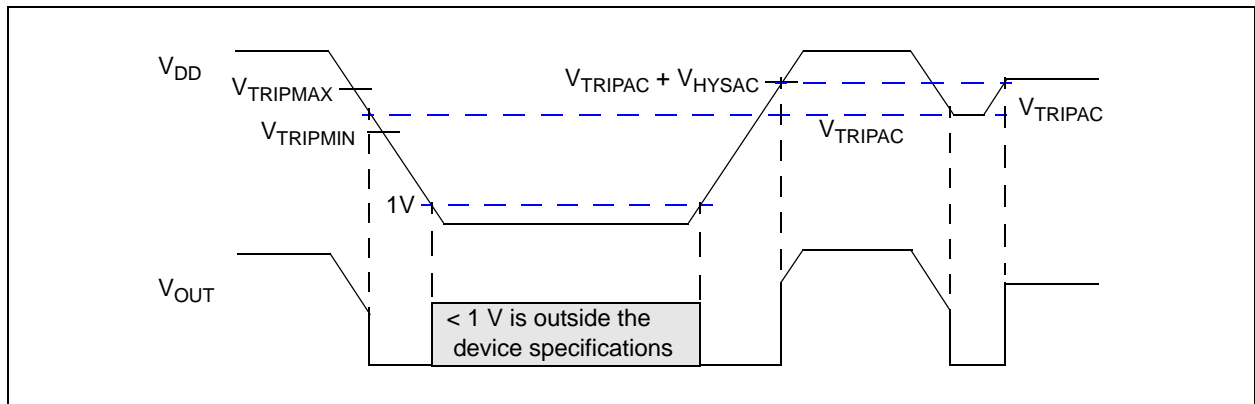

**FIGURE 4-1:** Typical Application Circuit.
**Note:** Unless otherwise indicated, all limits are specified for  $V_{DD} = 1V$  to  $5.5V$ ,  $R_{PU} = 100\text{ k}\Omega$  (only **MCP111**; see **Figure 4-1**),  $T_A = -40^\circ\text{C}$  to  $+125^\circ\text{C}$ .
**Note:** Unless otherwise indicated, all limits are specified for  $V_{DD} = 1V$  to  $5.5V$ ,  $R_{PU} = 100\text{ k}\Omega$  (only MCP111; see Figure 4-1),  $T_A = -40^\circ\text{C}$  to  $+125^\circ\text{C}$ .
For many of today's microcontroller applications, care must be taken to prevent low-power conditions that can cause many different system problems. The most common causes are brown-out conditions, where the system supply drops below the operating level momentarily. The second most common cause is when a slowly decaying power supply causes the microcontroller to begin executing instructions without sufficient voltage to sustain SRAM, thus producing indeterminate results. Figure 4-1 shows a typical application circuit.
A 0.1  $\mu\text{F}$  bypass cap mounted as close as possible to the  $V_{DD}$  pin provides additional transient immunity (refer to Figure 4-1).